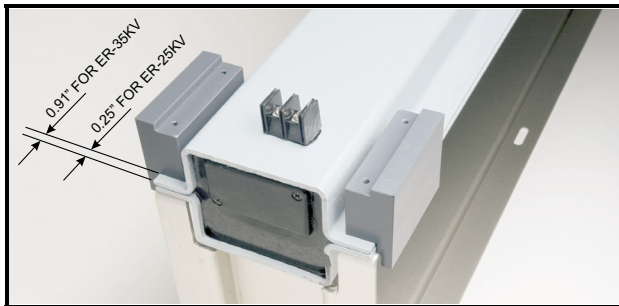

FIGURE 1
1. Slip the left and right mounting brackets in place at the R and G terminal block end of the sensing resistor and align the mounting brackets from the edge as shown in Figures 1 & 2.